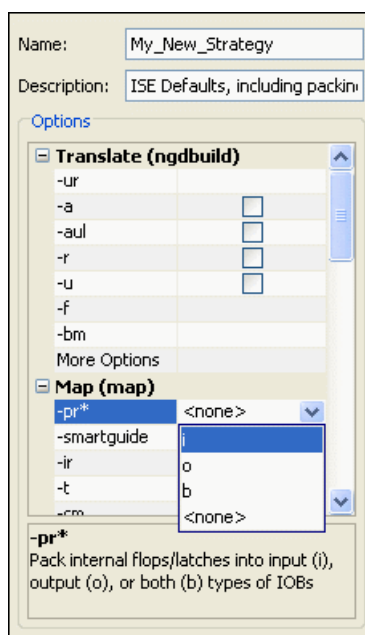

Figure 4-74: Command Options and Description
7. Modify command options by clicking in the command option area (to the right), and selecting an option from the pulldown menu, or typing a new value. Available command option settings display in the popup menu, as shown in Figure 4-74. Notice that you cannot change the default options for predefined PlanAhead tool strategies.